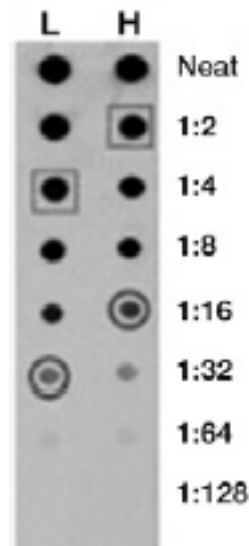

Fig. 1: Dot Blot
Eliminate distilled water, lay the membrane on a wet paper filter. Load onto the membrane 2  $\mu\text{L}$  of each dilution starting from the neat sample. LOW and HIGH conditions are to be loaded nearby for each dilutions (see Fig. 1). Allow for drying for 5 minutes.
- determine the appropriate sample dilution corresponding to the first non-saturating signal intensity – see fig. 1: circles.
- count 3 dilutions above the selected dilution for each purification condition to select the most appropriate sample dilution ("Working dilution") – see Fig. 1: squares